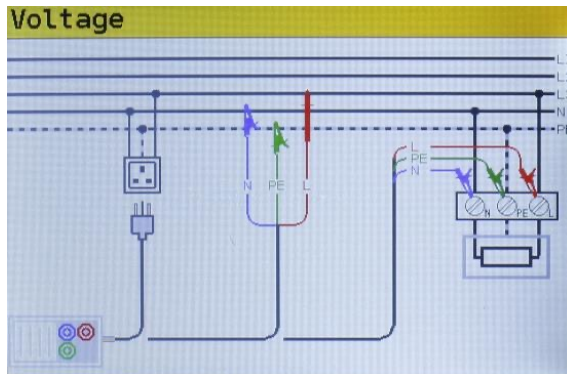

Figure 5.44: Connection diagram
Step 2 Connect test cable to the ET6000 series instrument and follow the connection diagram shown in figure 5.44 to perform a voltage and frequency measurement.